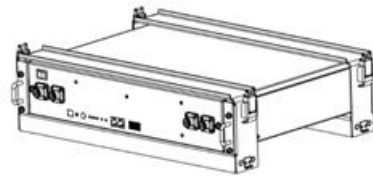

Figure3-4
1. Place the UE-48LI2500I and brackets as shown in the figure3-4, and insert the UE-48LI2500I into the brackets. Use 4 screws to fix the module on the front bracket.